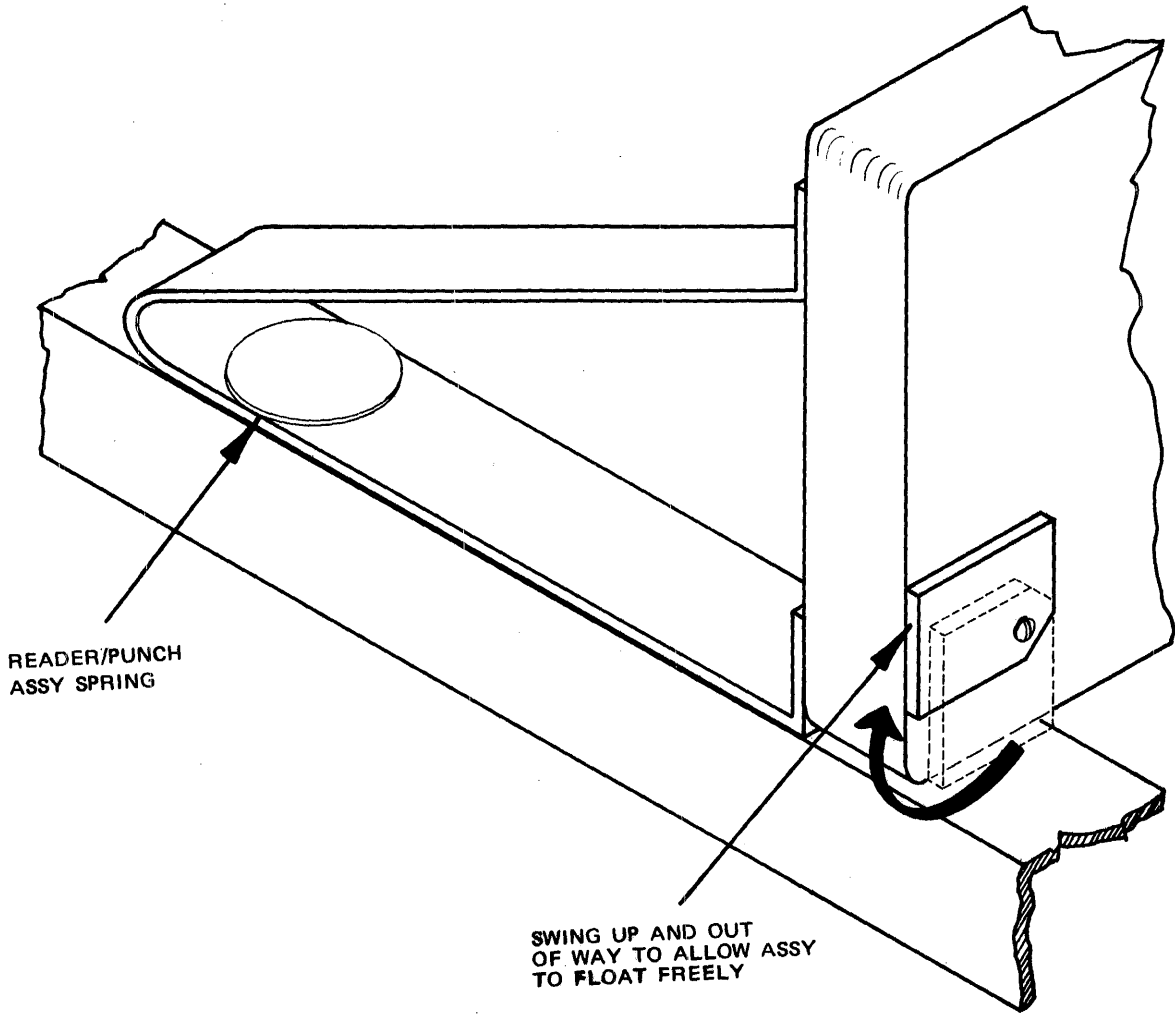

Figure 2-6. Card Reader/Punch Shipping Block
6. Locate shipping block on right side of reader/punch assembly. This block is located behind the triangular assembly mounting bracket, as shown in Figure 2-6. During shipment, this block is oriented in a downward position to immobilize the assembly, as shown in the figure. During operation, however, the block must be swung upward so that the assembly may float freely to prevent possible cracking of the frame casting during operation. Loosen screw and swing block upward.